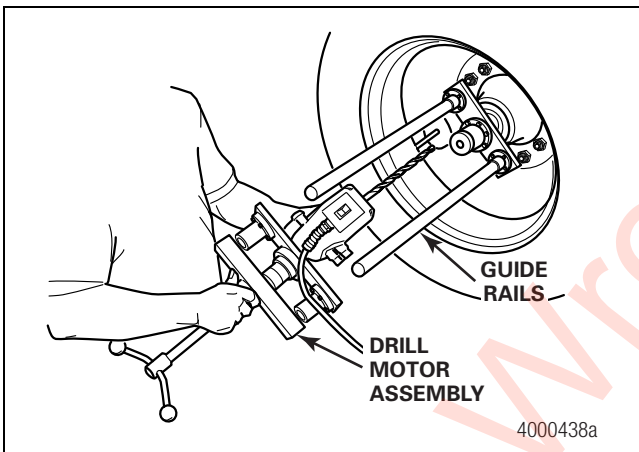
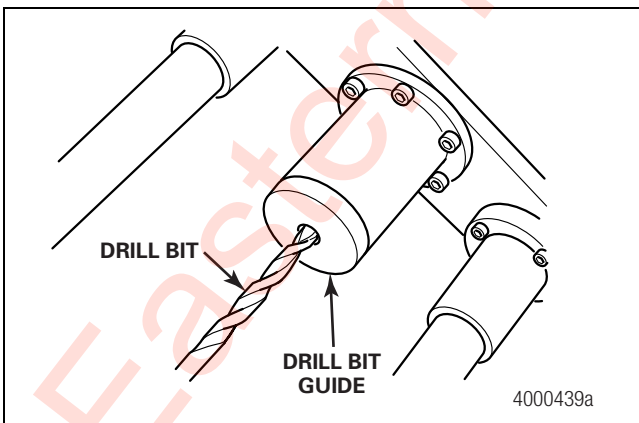

Figure 2.31
Figure 2.32
7. Slide the drill motor assembly onto the guide rails. Ensure that the drill bit is inserted into the drill bit guide. Figure 2.31 and Figure 2.32.